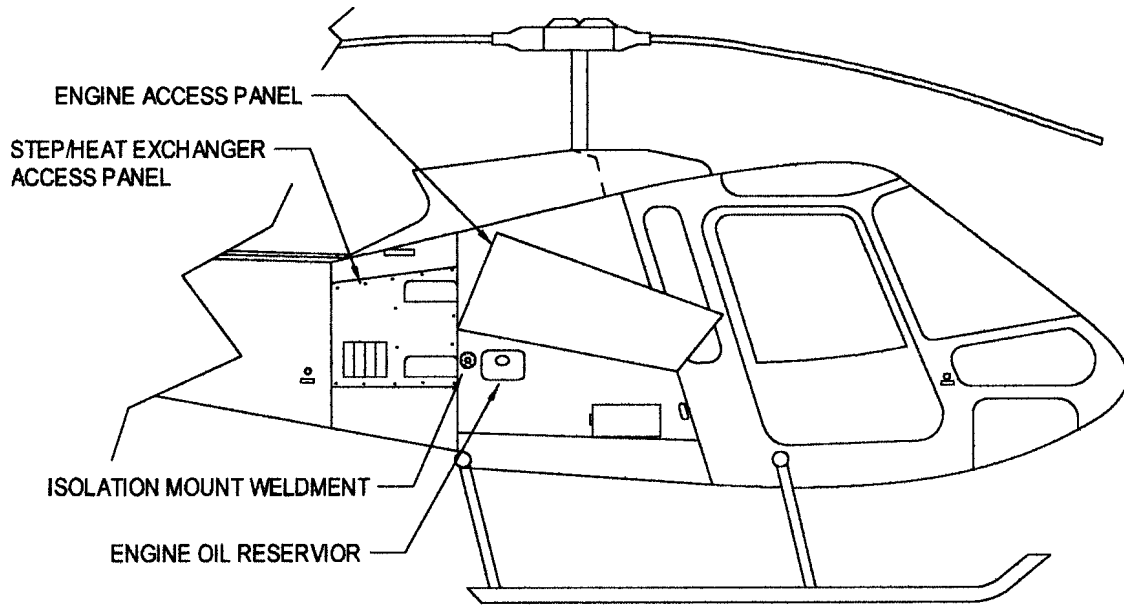

FIGURE 1
1. Open the right side engine access panel and remove the access panel covering the steps and oil cooler heat exchanger (see Figure 1).